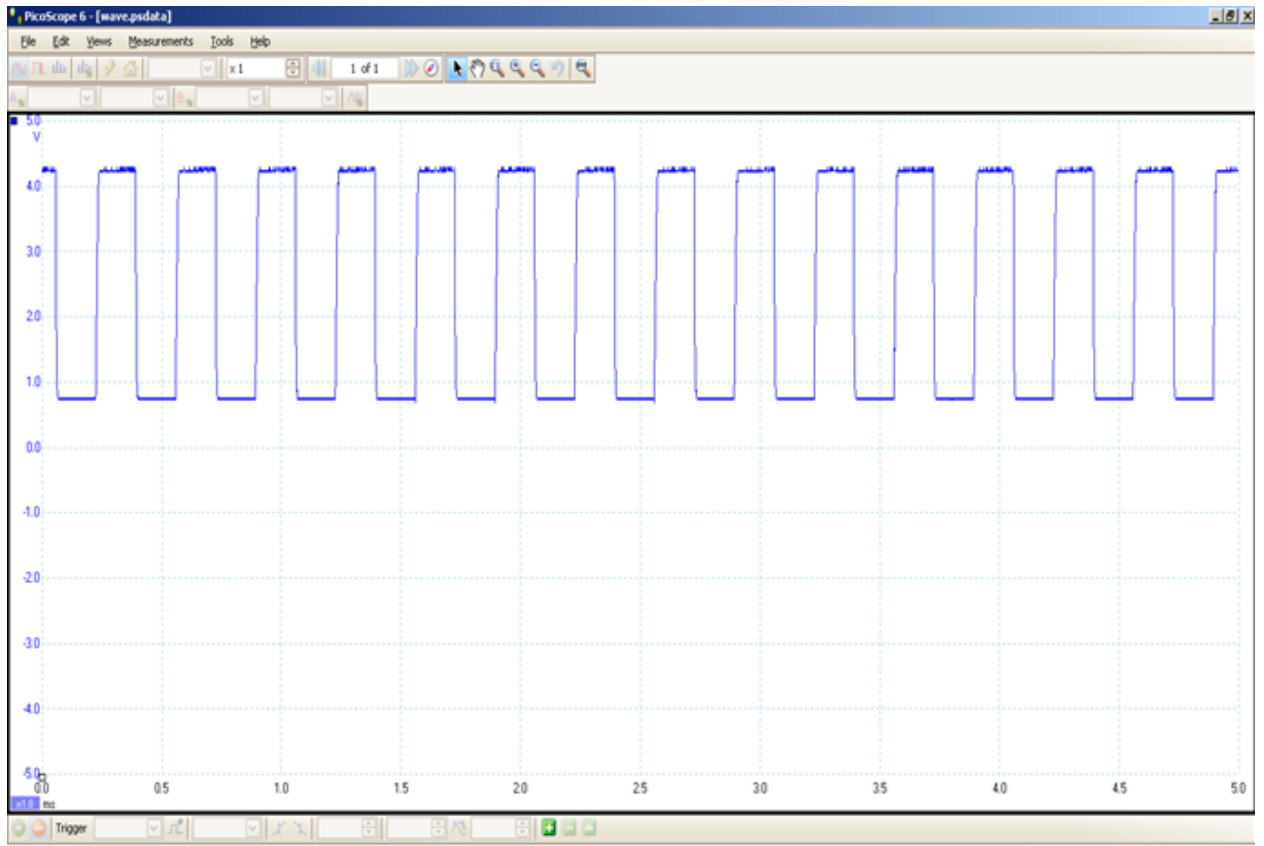

Figure 3: PWM output waveform at Pin number 20 of neoECU10
2. PWM output waveform at Pin number 20 of neoECU10 is shown in (Figure 3).